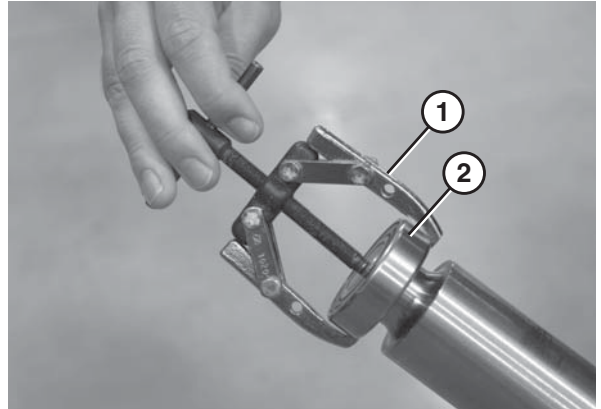

Figure 85
2. Using a bearing removal tool (Figure 85, item 1), remove the bearing (Figure 85, item 2).